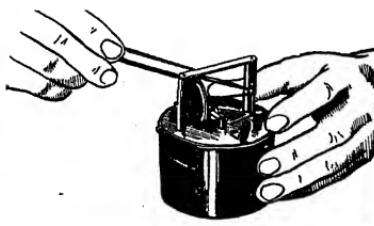

FIG. 16.—Correcting the adjustment.
**If Adjustment Is Needed.**—If the hand did not come to the highest scale mark within the limit, the range is not right. If it came to the mark within the limit but was outside the limits at points in the middle of the scale, the range is right but the adjustment is wrong. The range is changed by changing the length of the adjustment arm A. To do this, take out the adjustment screw part way (Fig. 16). To increase the range make the arm shorter; to decrease it, make the arm longer.